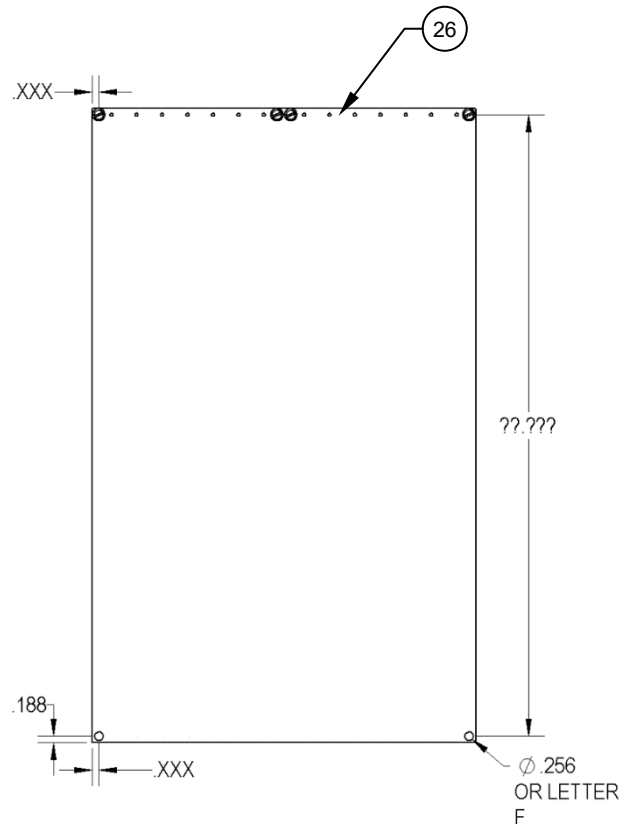

Figure 33
6.5.3. If you are cutting the Panel Mount Plate, Assy, (Item 25) for the first time follows steps 6.4.5 thru 6.4.9. When you use the Drill Template, Detail, (Item 41), use as in step 6.4.6, and then drill through the two omitted center holes and upsize to .256" letter F drill and countersink the backside $\text{\O} .327 \times 100^\circ$ for 2x Fastener, Panel, Stud, $\frac{1}{4}$ Turn, (Item 45). Then trim the length of the Panel Mount Plate, Assy, (Item 25), .188" past the center of the AFT row of fasteners. See Figures 33 & 34.